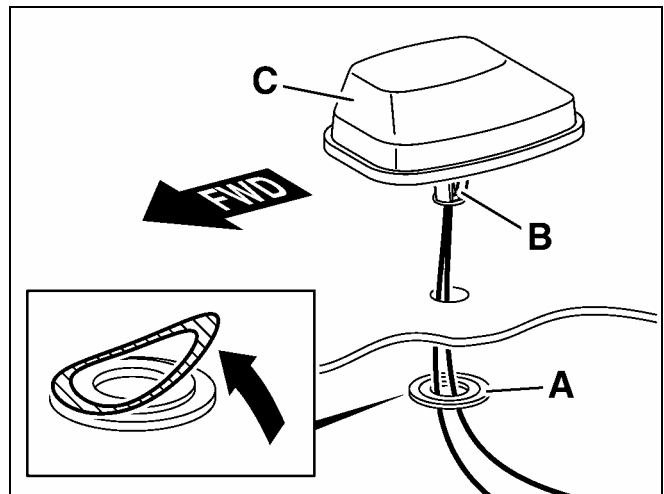

Figure 4
3. Peel off the protective backing from the adhesive side of the “thicker” plastic washer (Inset, Figure 4).
4. From the trunk lid interior surface, affix the adhesive side of the washer around the 20 mm hole (A, Figure 4).
6. Feed the SDARS antenna leads, from the trunk lid exterior, through the 20 mm hole with affixed washer (A, Figure 4).
7. Carefully insert the SDARS antenna sleeve (B, Figure 4) into the washer (A, Figure 4) until it audibly engages.